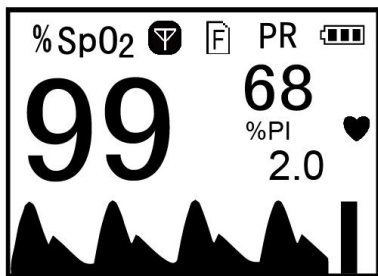

Figure 3.4 SpO2 measuring screen display
5. The Oximeter will automatically start measurement in 2 seconds, and then recording the measured data automatically. The display screen is as shown in figure 3.4. User can read the values and view the waveform form the display screen.